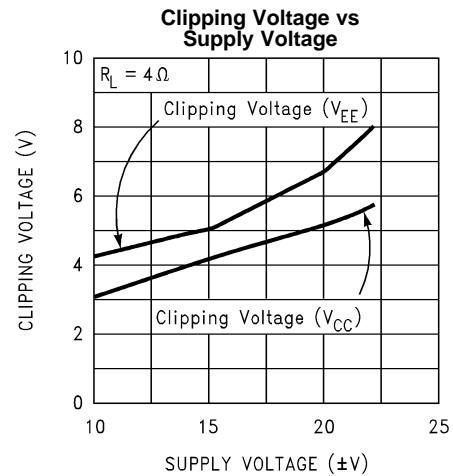
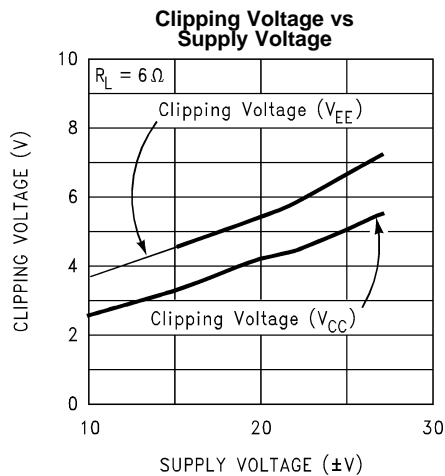
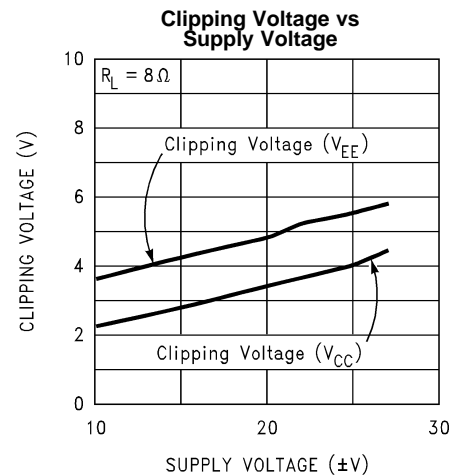

Figure 16.
Figure 17.
Figure 18.
(9) The output dropout voltage, V_{OD} , is the supply voltage minus the clipping voltage. Refer to Figure 16, Figure 17, and Figure 18 in Typical Performance Characteristics.